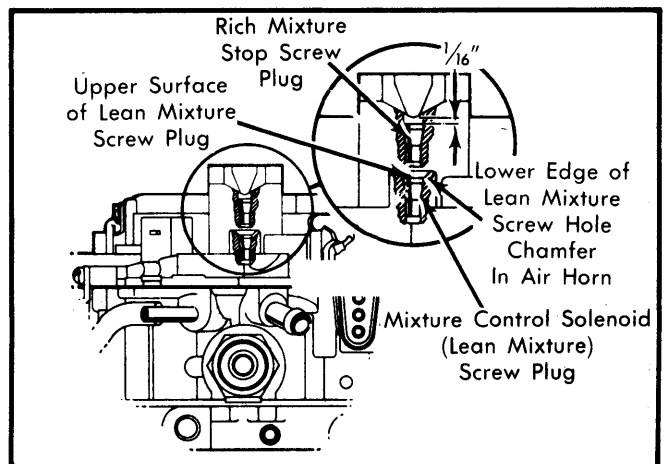

Fig. 10 Installing Lean and Rich Mixture Stop Screws in Air Horn
11) Once solenoid plunger travel is correctly set, install new plugs (supplied in service kit). Install mixture solenoid screw plug, hollow end down, into hole in raised boss of air horn casting. Use a small punch to drive plug into air horn until upper surface of plug is even with lower edge of hole chamfer. See Fig. 10.